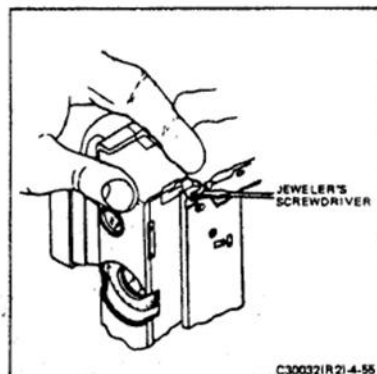

FIGURE 4-55 RELEASING SHUTTER MOUNT HINGE BRACKETS
NOTE: On early cameras, the shutter hinge bracket is held to the bottom plate with hinge pins. Release the bracket as directed in step 3 below (Figure 4-55). On later cameras, the bracket is riveted in place. Remove the rivets using Special Tool #11877.
- Using the blade of a jeweler's screwdriver, spring the shutter hinge bracket on each side just enough to release the pins. See Figure 4-55. This will release the shutter hinge bracket from the bottom plate.
- Release the shutter hinge bracket from the bottom plate by springing the bracket free using a jeweler's screwdriver as shown in Figure 4-55.